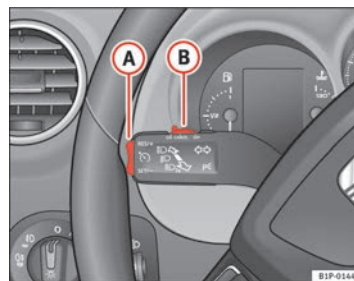

Fig. 133 Turn signal and main beam headlight lever: switch and rocker switch for the cruise control
- Press the upper part **RES/+** of the rocker switch ⇒ fig. 133 **A** to increase the speed. The vehicle will continue to accelerate as long as you keep the rocker switch pressed. When you release the switch, the new speed is stored.
Cruise control is switched off if you reduce speed by depressing the brake pedal. You can reactivate the control by pressing once on the upper part of the rocker switch **RES/+** → page 182, fig. 133 **A**.